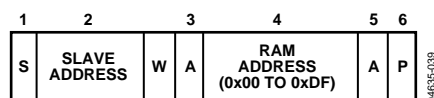

Figure 33. Setting a RAM Address for Subsequent Read
The SMBus specification defines several protocols for different types of read and write operations. The following abbreviations are used in Figure 33 to Figure 41:
- To write a register address to the RAM for a subsequent single byte read from the same address, or for a block read or block write starting at that address, as shown in Figure 33.